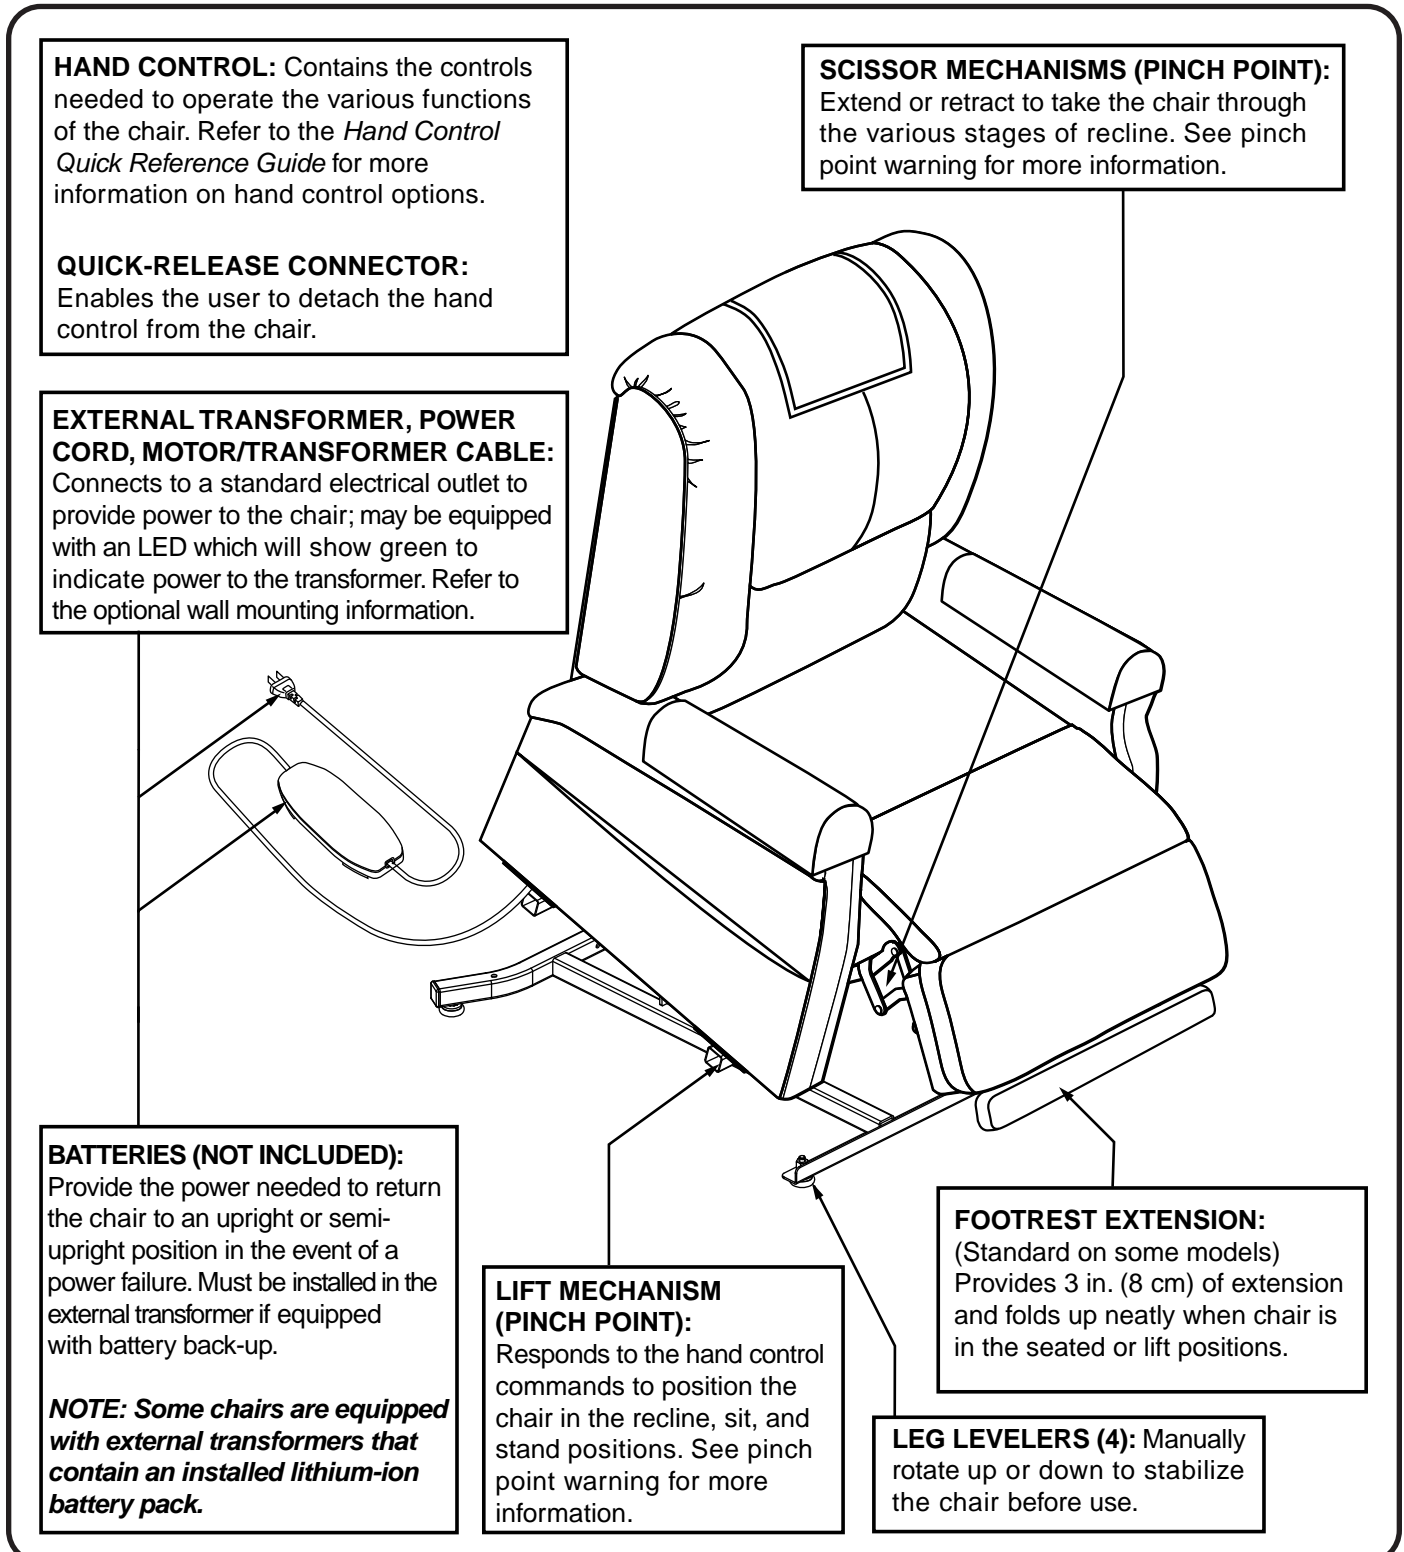

Figure 3.1 Chair Main Components
The scissor and lift mechanisms are labeled as pinch/crush point hazards on your chair. Keep clear of these areas and make sure the path of motion is unobstructed. See **figure 3.1** for pinch/crush point locations.
Chairs are equipped with several frame and electrical components. Typically, frame (or body) components include a removable back, chaise pad*, seat, footrest, leg levelers, a lift frame, and scissor mechanisms. The electrical components include the external transformer with connection cables, hand control, motor, and batteries‡ (not included). Refer to **figure 3.1** and note that the illustrations and options listed may not reflect the type of chair that you own.
- Adjust the leg levelers to stabilize the chair (**fig. 3.1**).